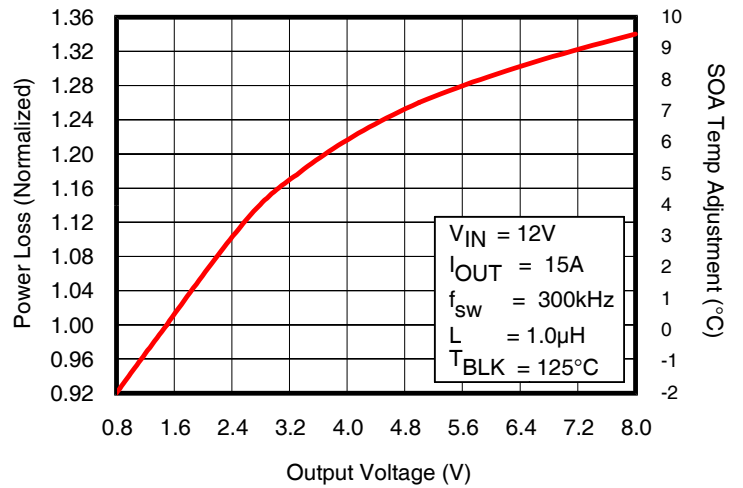

Fig. 5: Normalized Power Loss vs. V_{OUT}
- (Fig. 5) Normalized power loss for output voltage \approx 0.97
- (Fig. 5) Normalized SOA Temperature for output voltage $\approx -0.75^{\circ}C$